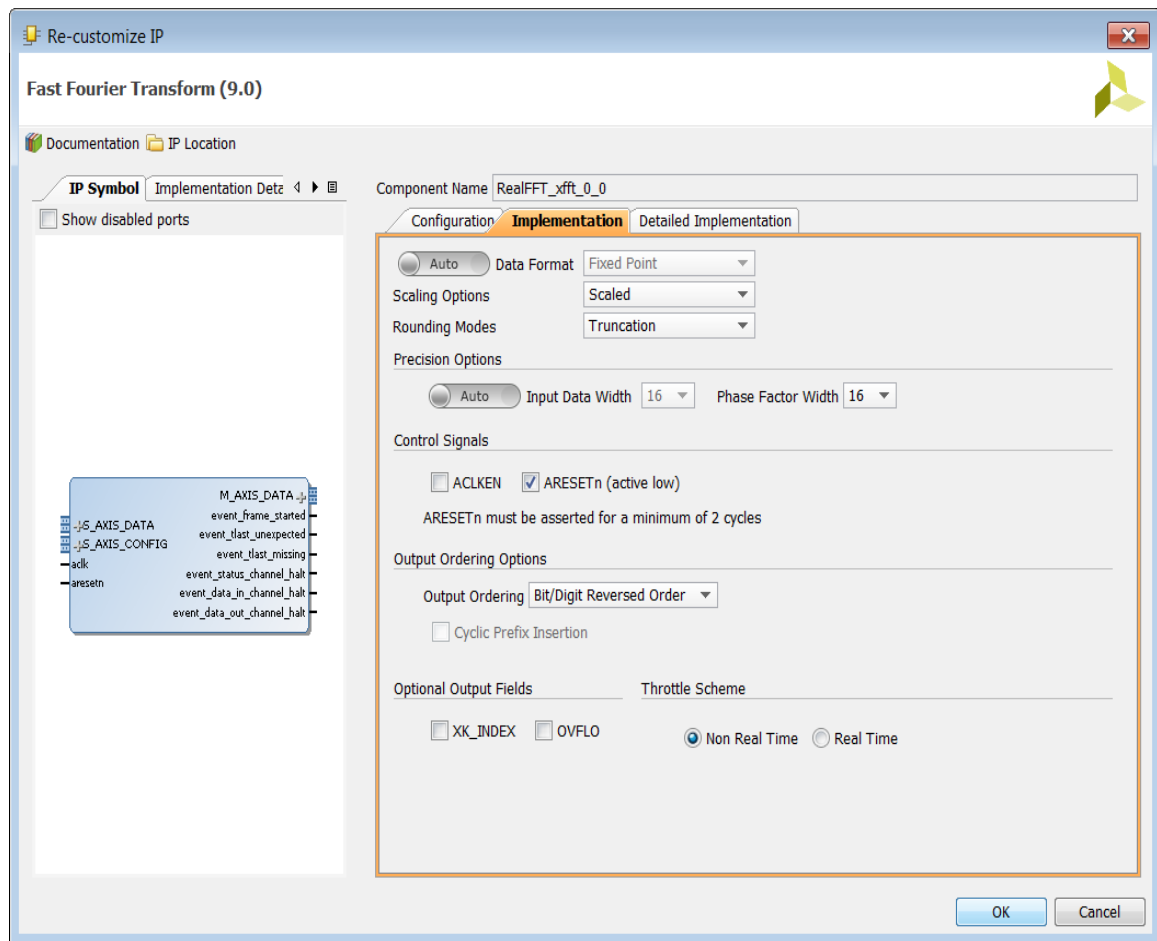

Figure 9-15: Xilinx FFT Implementation
5. Select the **Implementation** tab (Figure 9-15):